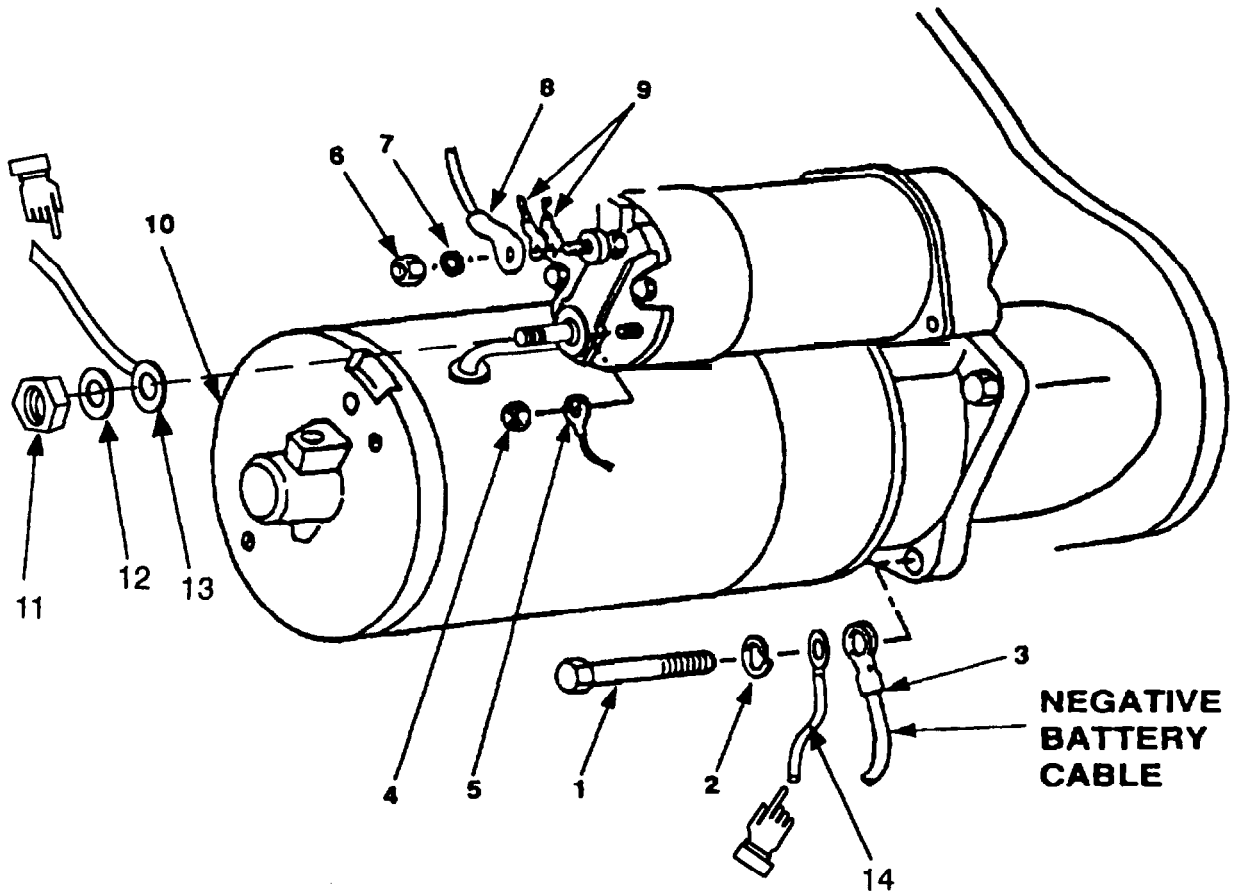

Figure 4-17. Starter Assembly Replacement.
- a. Remove bolt (figure 4-17, 1), lockwasher (2) and negative (-) battery cable (3).
- b. Remove nut (4). Tag and disconnect wire (5).
- c. Remove nut (6) and washer (7).
- d. Tag positive (t) battery cable (8) and wires (9).
- e. On Model 350 PAWN only, remove nut (11), washer (12) and wires (13). Tag wires.
- f. Remove remaining two bolts (1) and lockwashers (2) that secure starter (10) to engine.
- g. Carefully separate starter (10) from engine.
- a. Position starter (10) on engine so that drive gear mates with teeth on flywheel.
- b. Install two lock-washers (2) and bolts (1) in starter leaving bottom bolt (1) to connect negative battery cable (3).
- c. Install wires (9), positive (t) battery cable (8), washer (7), and nut (6). Remove tags.